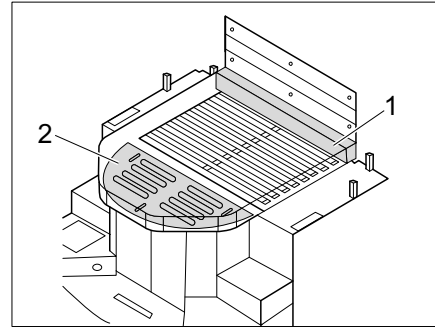

Fig. 181 Bed with mattress extension (with additional mattress and pull-out base)
- Place additional mattress (Fig. 181,1) on the front side of the queen bed.
- Pull out the pull-out base (Fig. 181,2).